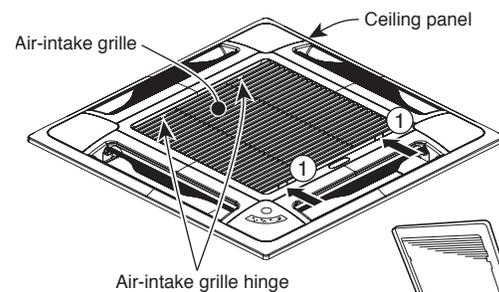

**Fig. 6-11**
- Ⓐ must be within the range of 1/2" (13mm) to 23/32" (18mm). (Fig. 6-11)
- (1) Check that the ceiling hole is 23-5/8" (600 mm) × 23-5/8" (600 mm) (Fig. 6-11)
- (2) Confirm that the position of the indoor unit and the ceiling as shown in the diagram. If the positions of the ceiling surface and unit do not match, air leakage, water leakage, flap operation failure, or other problems may occur. (Fig. 6-11)